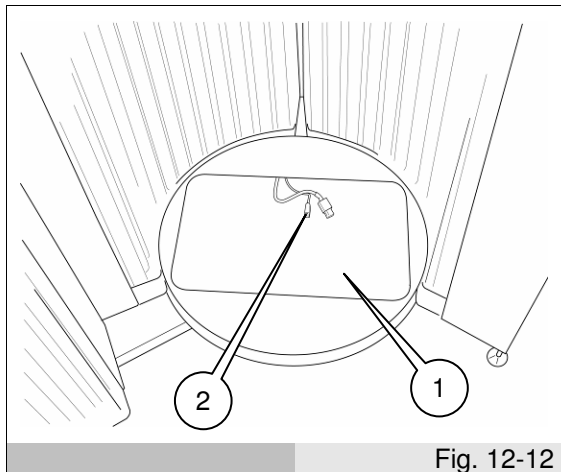
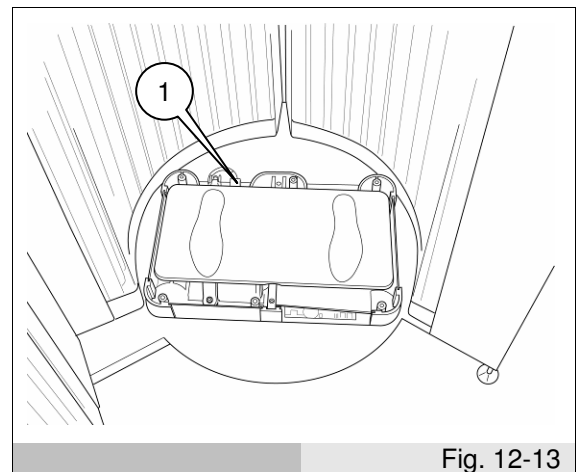
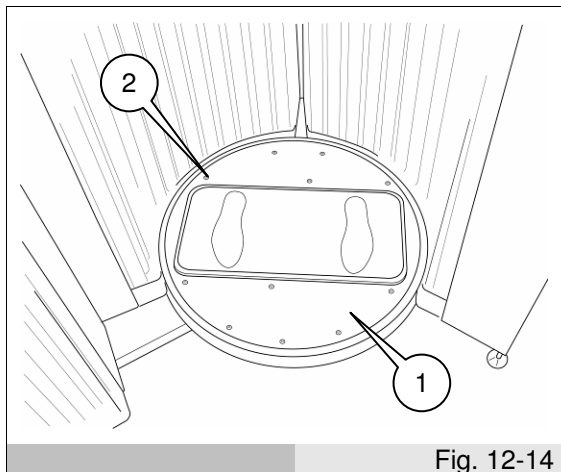

Fig. 12-12
Fig. 12-13
Fig. 12-14
- Install the Beauty Vibro Plate Plus in its hole (ref. 1 fig. 12-12) and connect the panel's power cables (ref. 2 fig. 12-12); make sure the plate is installed with the connections (ref. 1 fig. 12-13) to the power cables facing the appliance's walls. Insert the Plexiglas base (ref. 1 fig. 12-14) with the lower flap facing the door; attach it to the vibrating plate with the relative 6 x TSCEI M6x20 screws (ref. 2 fig. 12-14).